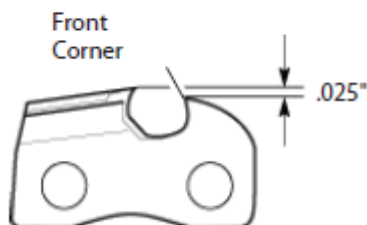

Fig.17
3. Remove depth gauge tool. With flat file, round off front corner of cutter depth gauge (see Fig.17).